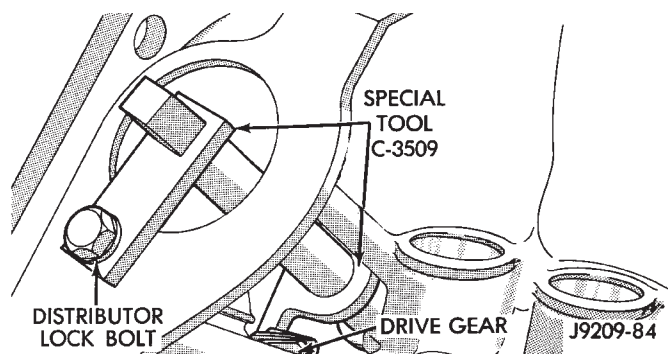

Fig. 29 Camshaft Holding Tool C-3509 (Installed Position)
- (2) Install Camshaft Gear Installer Tool C-3509 with tongue back of distributor drive gear (Fig. 29).